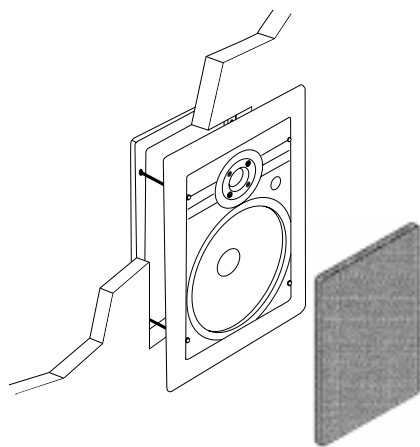

Figure 13
5. Slip the bracket through the hole. Orient the speaker so that the speaker is level. Secure the speaker and the bracket by tightening the baffle screws. Do not overtighten the screws, this will distort the frame and the grilles will not fit (this is not permanent, just loosen the screws and the grille will pop in). The screws should pull the speaker and bracket together (sandwiching the drywall) so that the frame is absolutely flush with the wall surface. There should be no gaps between the wall and the frame (See Figure 13).